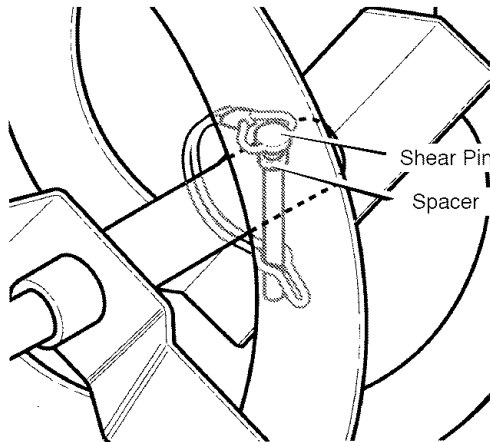

Figure 46
3. Align the hole in the auger with the hole in the auger shaft. Install the new **shear pin** and **spacer**. See Figure 46.